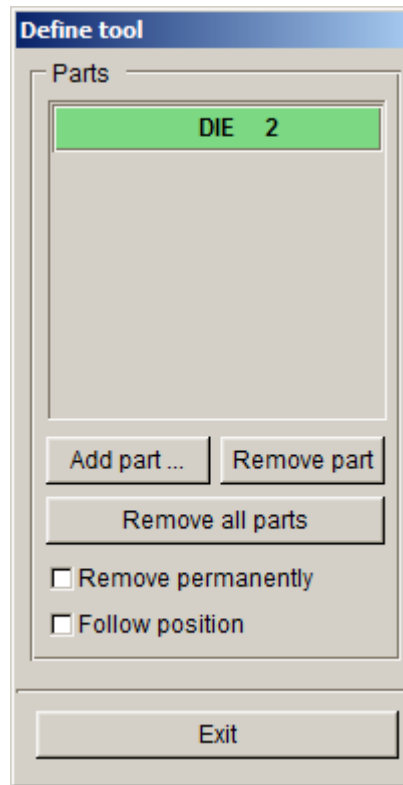

Figure 1.17 Tool definition
8. Click OK to return to Define geometry interface, and now the die part has been added to part lists. See Figure 1.17.